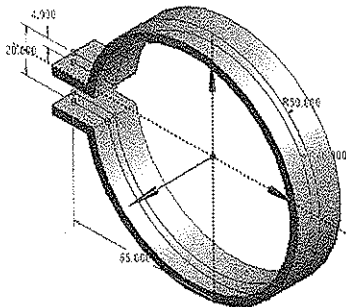

Figure 3-101 The base feature
- 4. Choose the **Generate** tool from the **DesignModeler** toolbar; the base feature is created with the specified settings, refer to Figure 3-101.